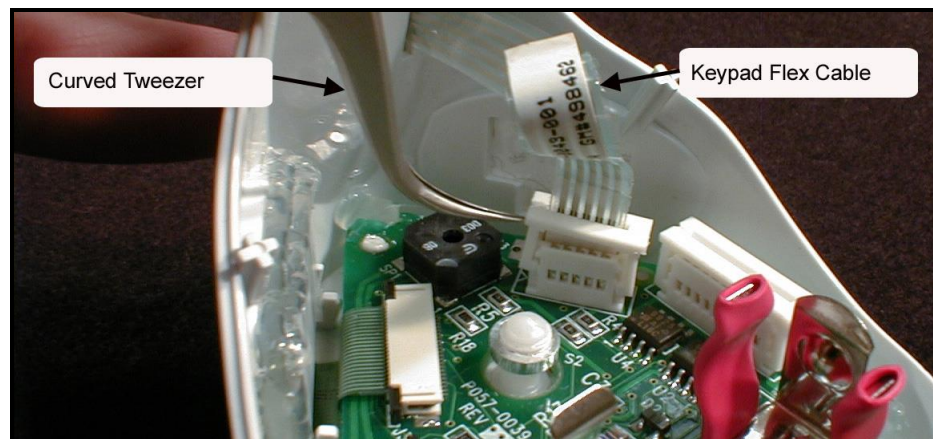

Figure 5 Inserting Keypad Flex Cable to PCB connector
3. Re- connect the Motor Flex Cable (gold) from colored body assembly into its' PCB socket and lock into place as in **Figure 5**.